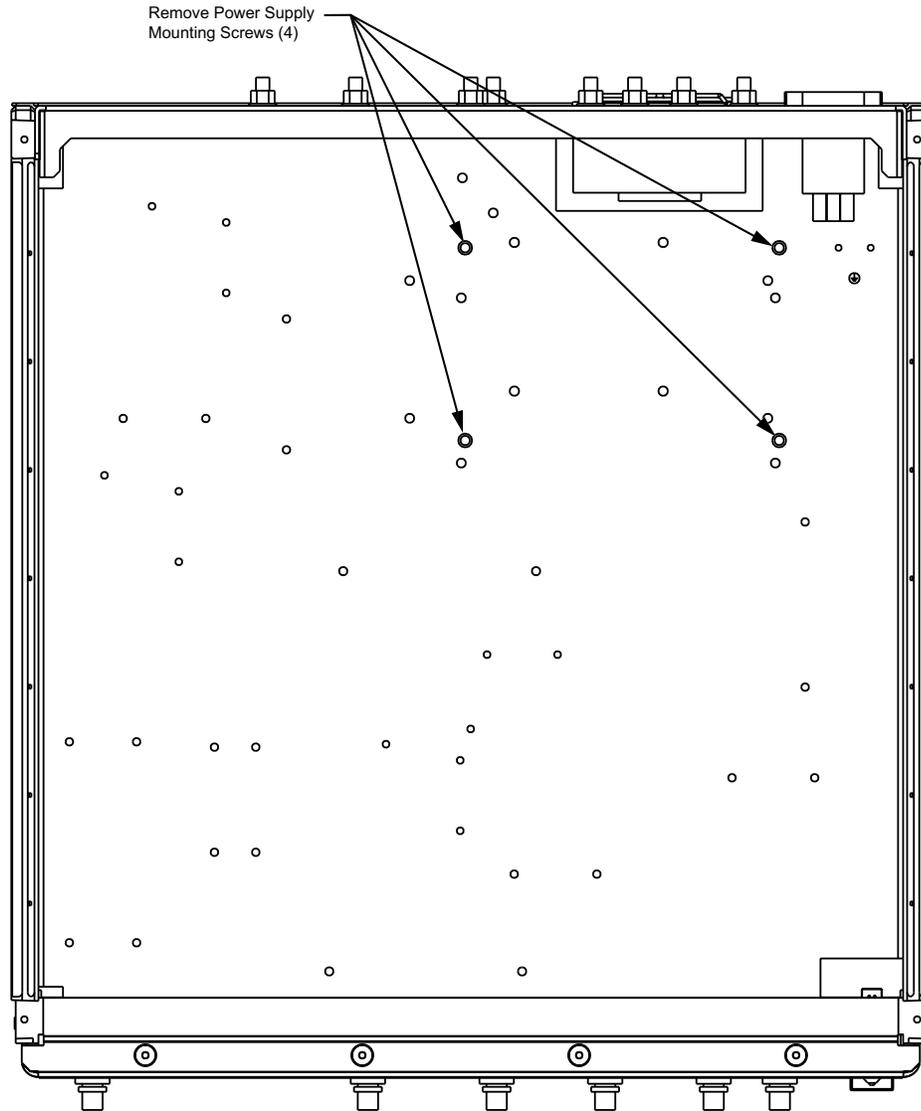

Figure 5-7. Power Supply Removal (Bottom View)
Step 4. Hold the Power Supply and remove the four mounting screws with a #1 Phillips screwdriver (Figure 5-7).